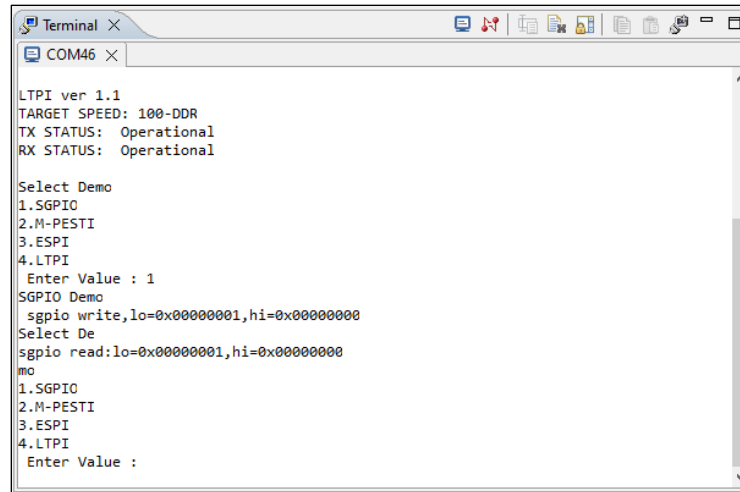

Figure 6.21. UART SGPIO Demonstration Selection
3. Make the following selection for the SGPIO demonstration, as shown in Figure 6.21.